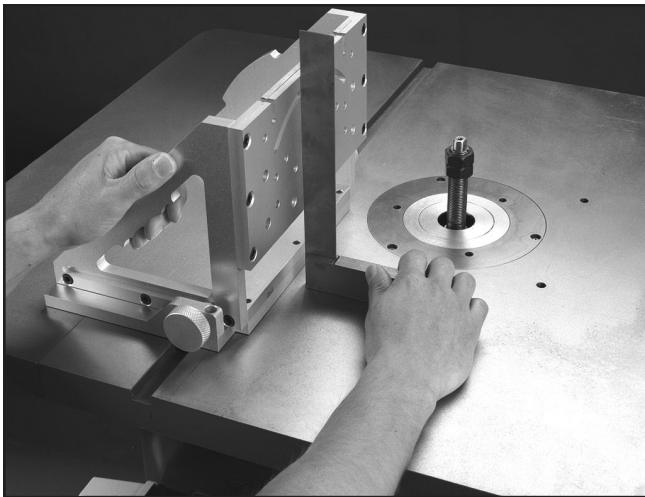

Figure 5. Checking for square.
Ensure that the Shop Fox® slides freely on the base plate assembly. Figure 5.
1. Place the Shop Fox® in an appropriate miter slot and place a high quality machinist's square against the table and face plate. Figure 5.
3. Loosen the six (6) cap screws that secure the two hand holds to the sliding table. Pitch the face plate in the desired direction by the degree necessary for a perfect 90° angle. Do not loosen the face plate screws. Keep the hand hold and face plate screwed tightly together so no compounding errors occur.